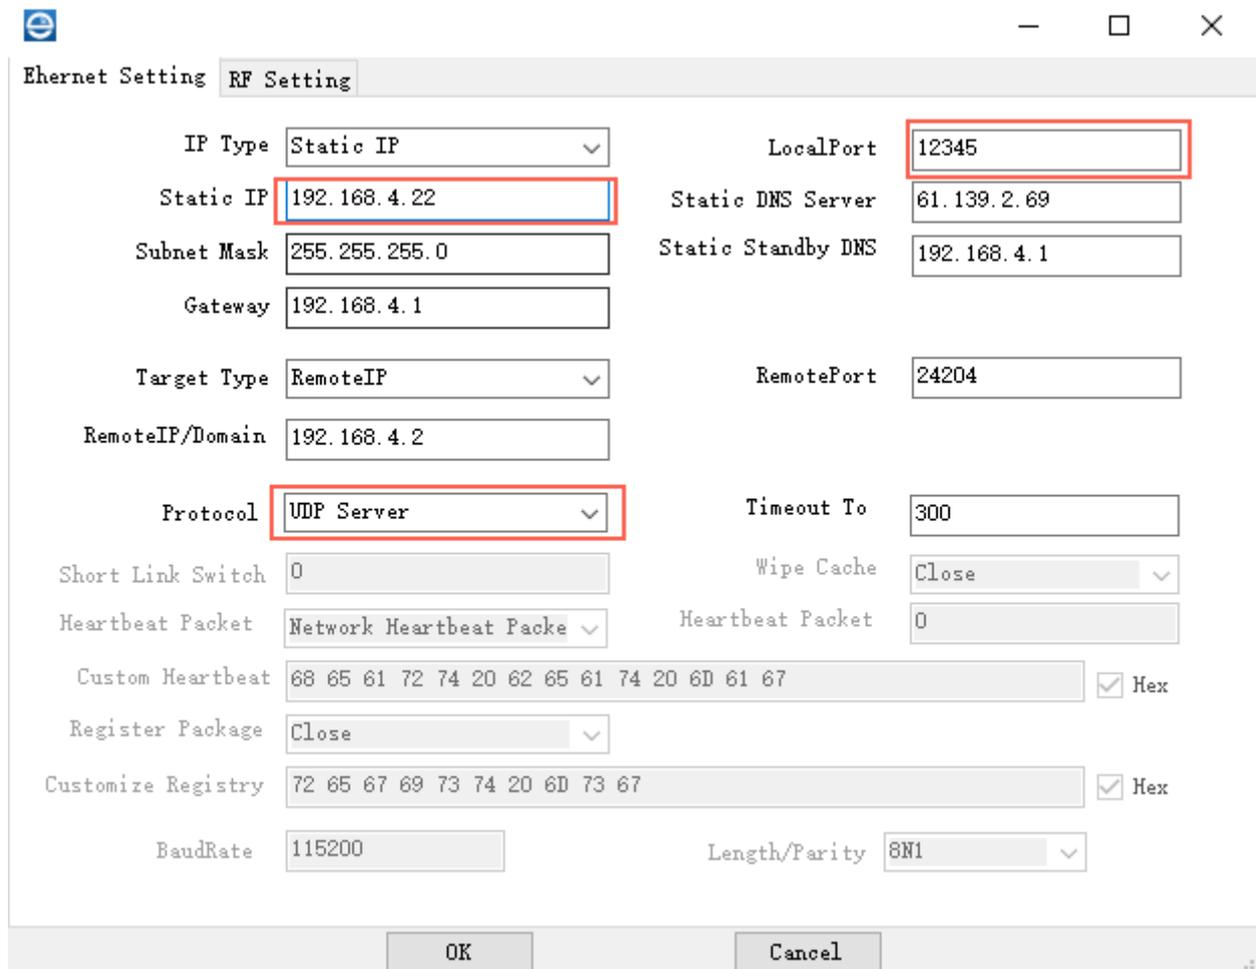

Figure 15 Parameter setting instructions
- (1) UDP operation and TCP operation are basically the same, as shown in Figure 15, set the protocol type to UDP Server, static IP address (example: 192.168.4.22) and local port (12345).